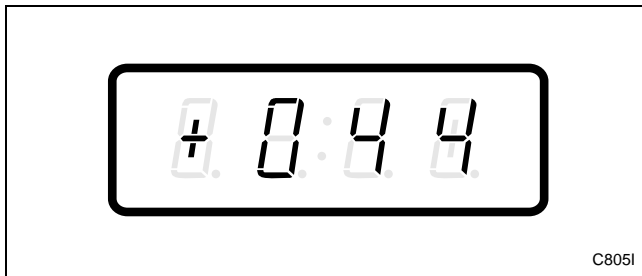

Figure 130
- Press the DELICATES (+) or the COLD (-) keypad to scroll through the programmable options until “+044” appears in the VFD. Refer to *Figure 130*.